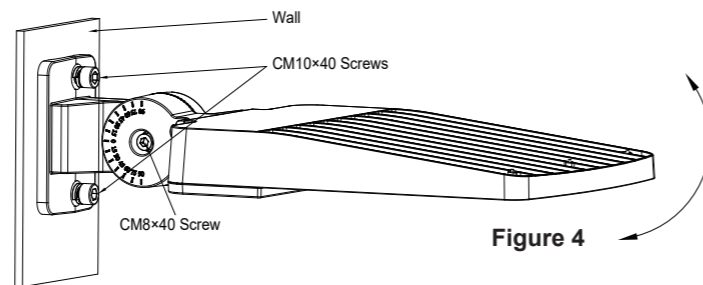

Figure 4
4. Make power connections as per NEC. Secure the bracket to the wall using expansion bolts (provided by others), or to a square or round lamp pole using two CM10x40 screws. Loosen the CM8x40 screw, adjust the bracket to the desired angle, and then tighten the CM8x40 screw, Figure 4 and 5.